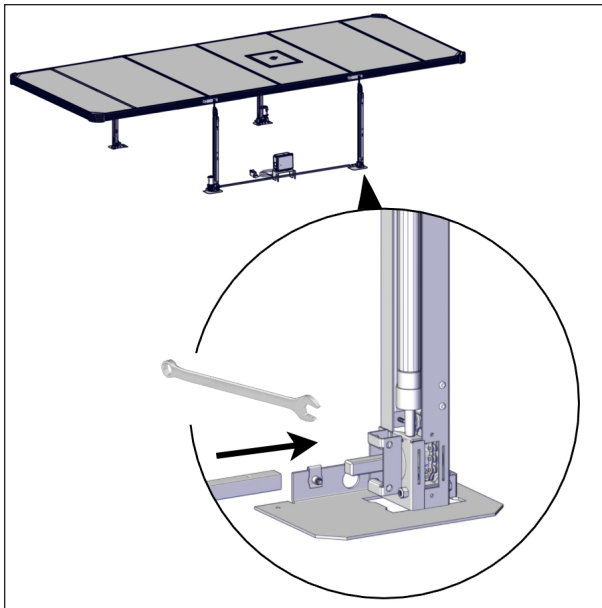

FIGURE 69: DRIVE SHAFT INSTALLATION ON THE NON-MOTOR SIDE
3. On the same spa side, install the drive shaft onto the non-motorized jack shaft, see Figure 69.
If the drive shaft does not line up with the non-motorized jack shaft, the use of a 3/4" (19 mm) wrench or adjustable wrench can help. Slightly rotate the shaft as shown in Figure 69.